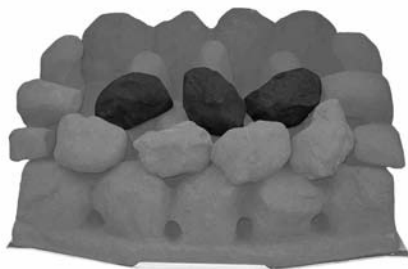

Fig. 16
6. Choose three loose coals and place them in line on the next row up, again making sure all the gaps are even. It is important that the coals 'bridge' the peaks of the fuel bed and are not placed in between. This helps the flow of burnt gases and should give an even glowing fuel bed (Fig. 16).